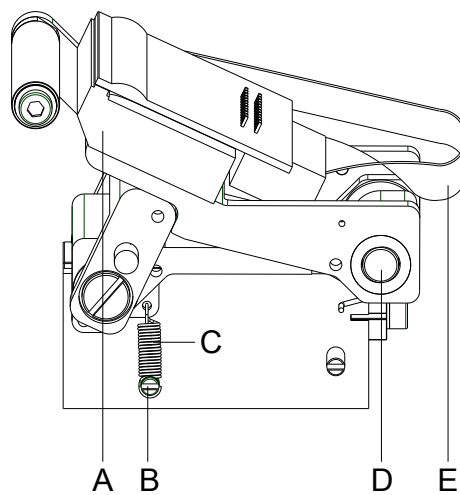

Figure 19
3. Remove the printhead cable (E, Figure 19) from the printhead (A, Figure 19).